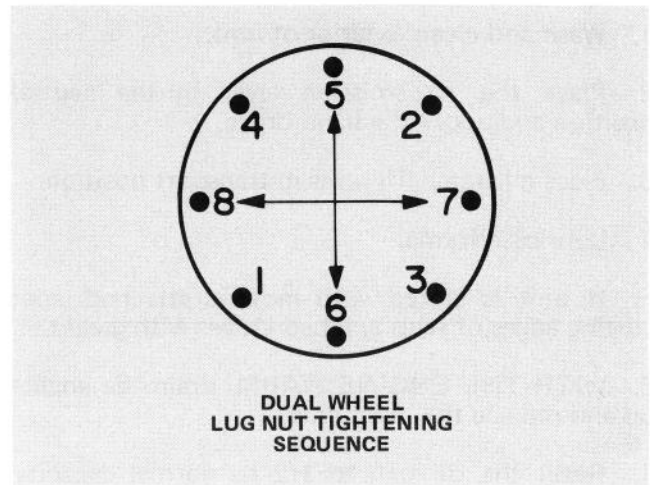

Figure 113
top of bolt circle (Fig. 113) and just snug the top nut.
2. Snug the remaining nuts in a criss-cross pattern to minimize run-out (Fig. 113).